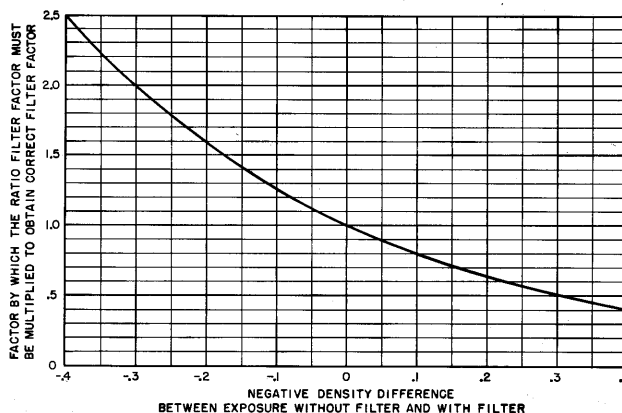

Fig. 10
- c. Measure the negative densities of the steps on the two negatives where the density is about 1.0. If both negatives have the same density for the same step on the gray scale the filter factor is correct. If the densities differ, correct the filter factor by means of the following graph (Figure 10).
5. Refer to the curve in Figure 10 and find the factor by which the assumed filter factor must be multiplied to obtain the correct filter factor.
ILLUSTRATION: Assume the reflection density of the middle step of the gray scale is .7 and that the corresponding negative density values, as obtained from the curves, are 0.75, 0.94, and 0.81 for the Red, Blue, and Green Record negatives respectively. Let us assume the Green Record negative density value of 0.81 is correct and on this basis the Red Record negative is .06 too low while the Blue Record negative is .13 too high. Since the Red Record negative is .06 too low it should be preceded by a minus sign, and referring to the curve (Fig. 10) the factor corresponding to $-.06$ is 1.14, hence the assumed filter factor for the red filter must be multiplied by 1.14. The Blue Record negative is .13 too high and the factor corresponding to .13 is .74, hence the assumed filter factor for the blue filter must be multiplied by .74. If the red filter factor you used was 4, this should be corrected to $4 \times 1.14 = 4.6$. Similarly, if you had used 10 for the blue filter, this must be corrected to $10 \times 0.74 = 7.4$.